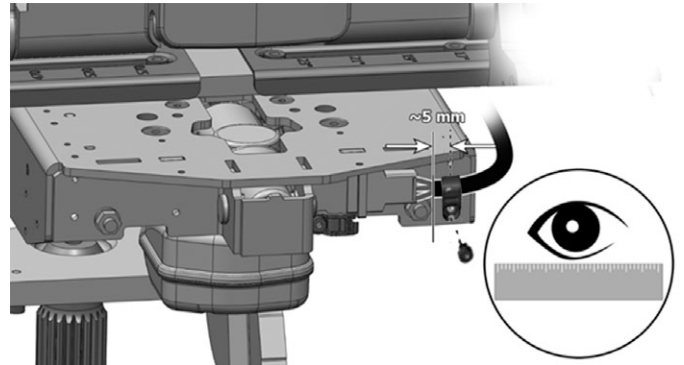

Figure 131. The cable bracket is mounted with the cable jacket protruding approximately 5 mm / 0.2".
1. The first cable bracket must be mounted with the cable jacket protruding approximately 5 mm / 0.2". See fig. 131.
2. The cable two brackets on the AP-elevator are mounted with one screw each. See fig. 131 - 132. Use a Torque wrench to tighten the screws. **Tightening torque 1.2 Nm / 0.9 Ft/lbs.**